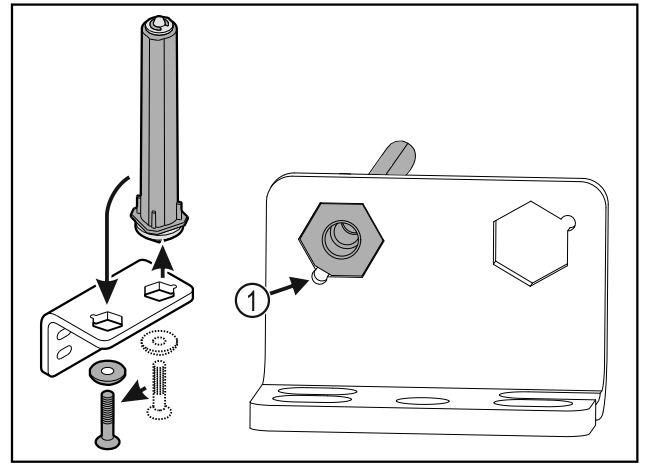

Fig. 22
- ▶ Make sure the pin chamfer Fig. 22 (1) faces the round hole when you put it in.